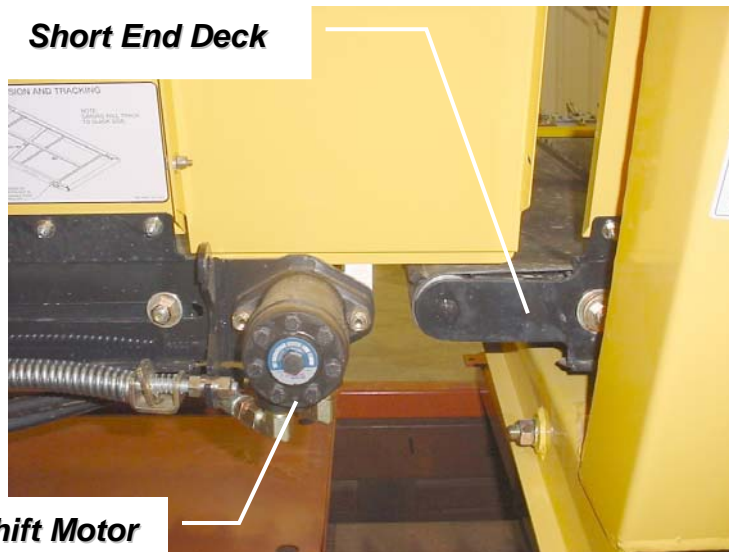

Figure 90.10
One procedure is to extend a deck is to add a 14 inch deck extension kit to the idler end of a deck (figures 90.10 and 90.11).
1. Remove the connector bar and open the canvas to reveal the idler roller. Figure 90.10